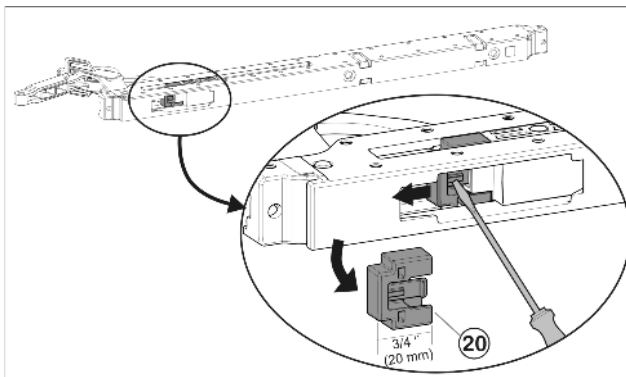

Fig. 54
- Remove opening limiter (110°) *Fig. 54 (20)* on soft stop mechanism: Press down notch using screwdriver and pull off opening limiter *Fig. 54 (20)*.